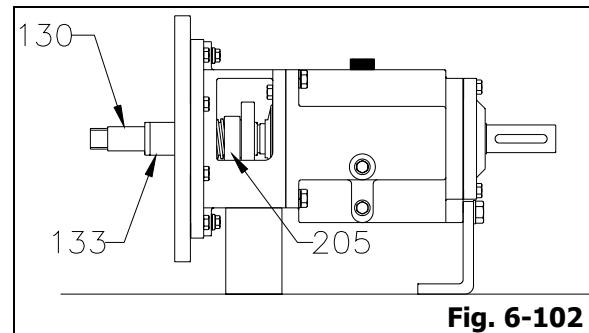

Fig. 6-102
9. Install shaft sleeve (133) assembly carefully onto shaft (130) until the lapped surfaces of the atmospheric end mechanical seal (205) are seated on each others (Fig. 6-102).